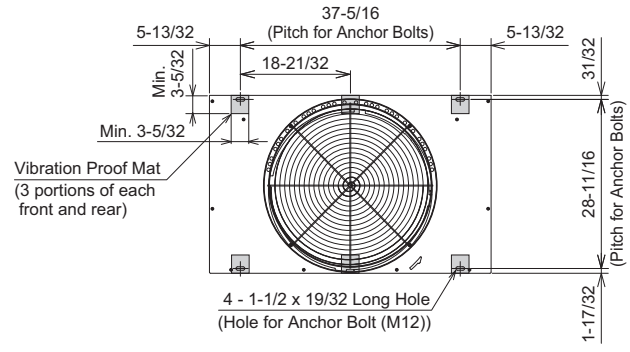

Figure 5.3 Positions of Anchor Bolts
- (4) Provide a strong, level, and stable foundation so that:
- (5) When installing the outdoor unit, secure the unit with anchor bolts and field-supplied vibration-proof mats. Refer to Figure 5.3 for the location of holes for anchor bolts.